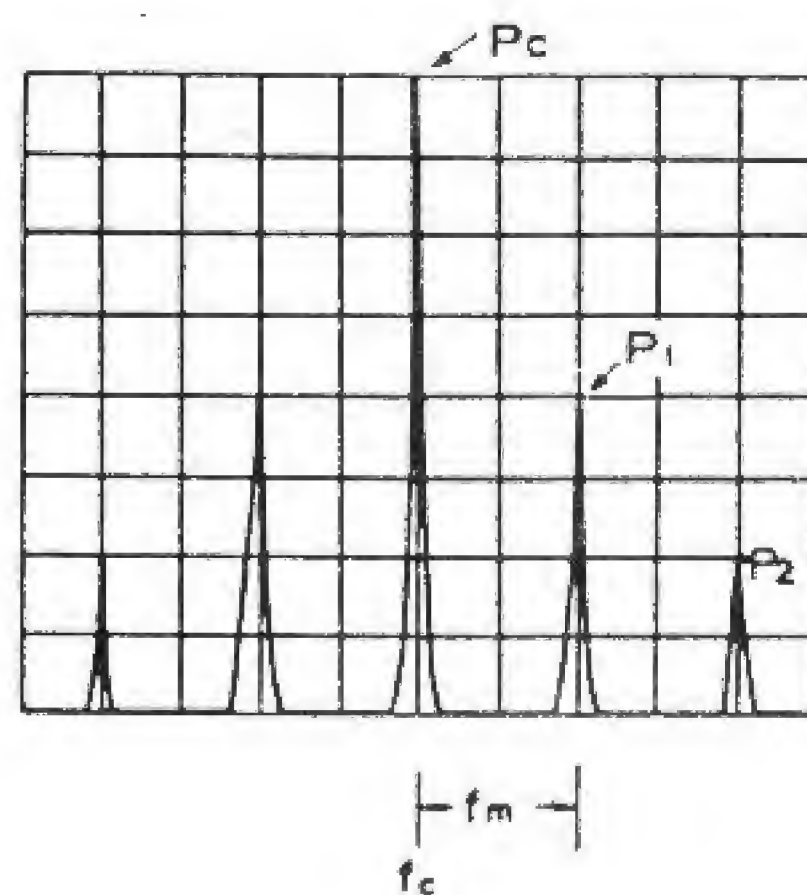

Fig. 3-19 AM Wave Spectrum
(2) AM wave measurement
When an AM wave is displayed, as shown in Fig. 3-19, the carrier frequency f_c , modulation frequency f_m , and their levels P_c , P_1 , and P_2 (dBm or dBμ) can be measured by the measurement procedure described in (1).